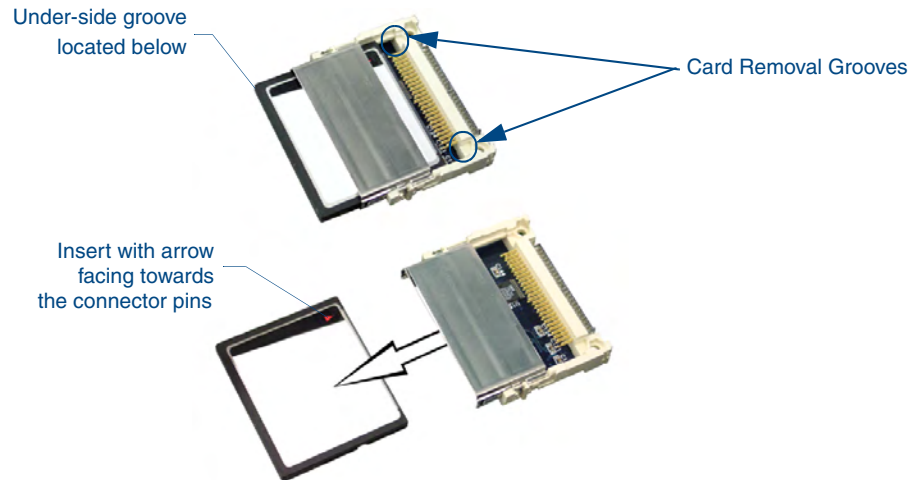

FIG. 4 Removing the Compact Flash card
6. Insert the upgrade card into the connector opening with the arrow facing towards the pins, then push it in firmly until the contact pins are completely inside the flash card and securely attached to the connector (FIG. 4).